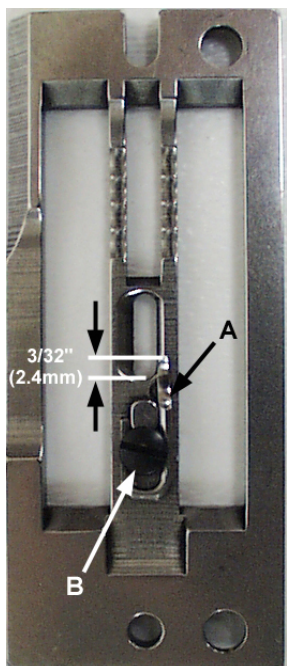

Fig 9
Remove the throat plate and set the retainer (A, Fig 9) so that the tip is approximately 3/32" (2.4mm) from the front of the needle hole in the throat plate and tighten screw (B). The retainer may need to be move in or out slightly if skipping or malformed stitches occur while sewing.